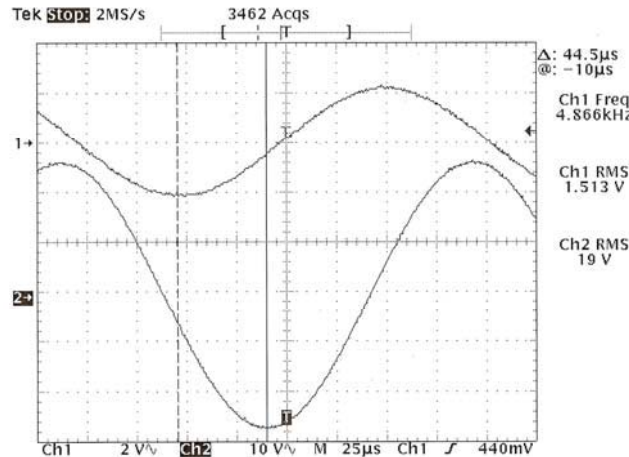

Figure 1.14
A typical trace near the resonant frequency, with the cursors placed at the troughs, is shown in Figure 1.14.[For the waveforms in Figure 1.14,  $V_{out}(Ch2)$  lags  $V_{in}(Ch1)$  by  $360(4866)(44.5 \times 10^{-6})$  degrees or  $\sim 78^\circ$ ]
11. **Results (AC) :**
- The amplitude ratio  $V_{out}/V_{in}$  in Fig 1.14 is called the Voltage Gain  $A_v$ . From the two printouts of Step 10, obtain the values of  $A_v$  at the two frequencies  $f_1$  &  $f_2$  used.